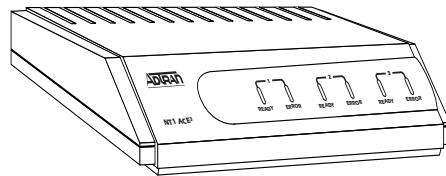

Figure 1-1
The ADTRAN NT1 ACE³ provides up to three basic rate interfaces between customer ISDN terminal equipment (S/T) and the ISDN network (U). Figure 1-1 is an illustration of the NT1 ACE³.